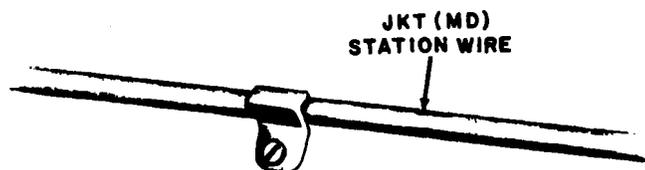

Fig. 1—B Station Wire Clamp
2.01 The B station wire clamp (Fig. 1) is used to support jacketed station wire.